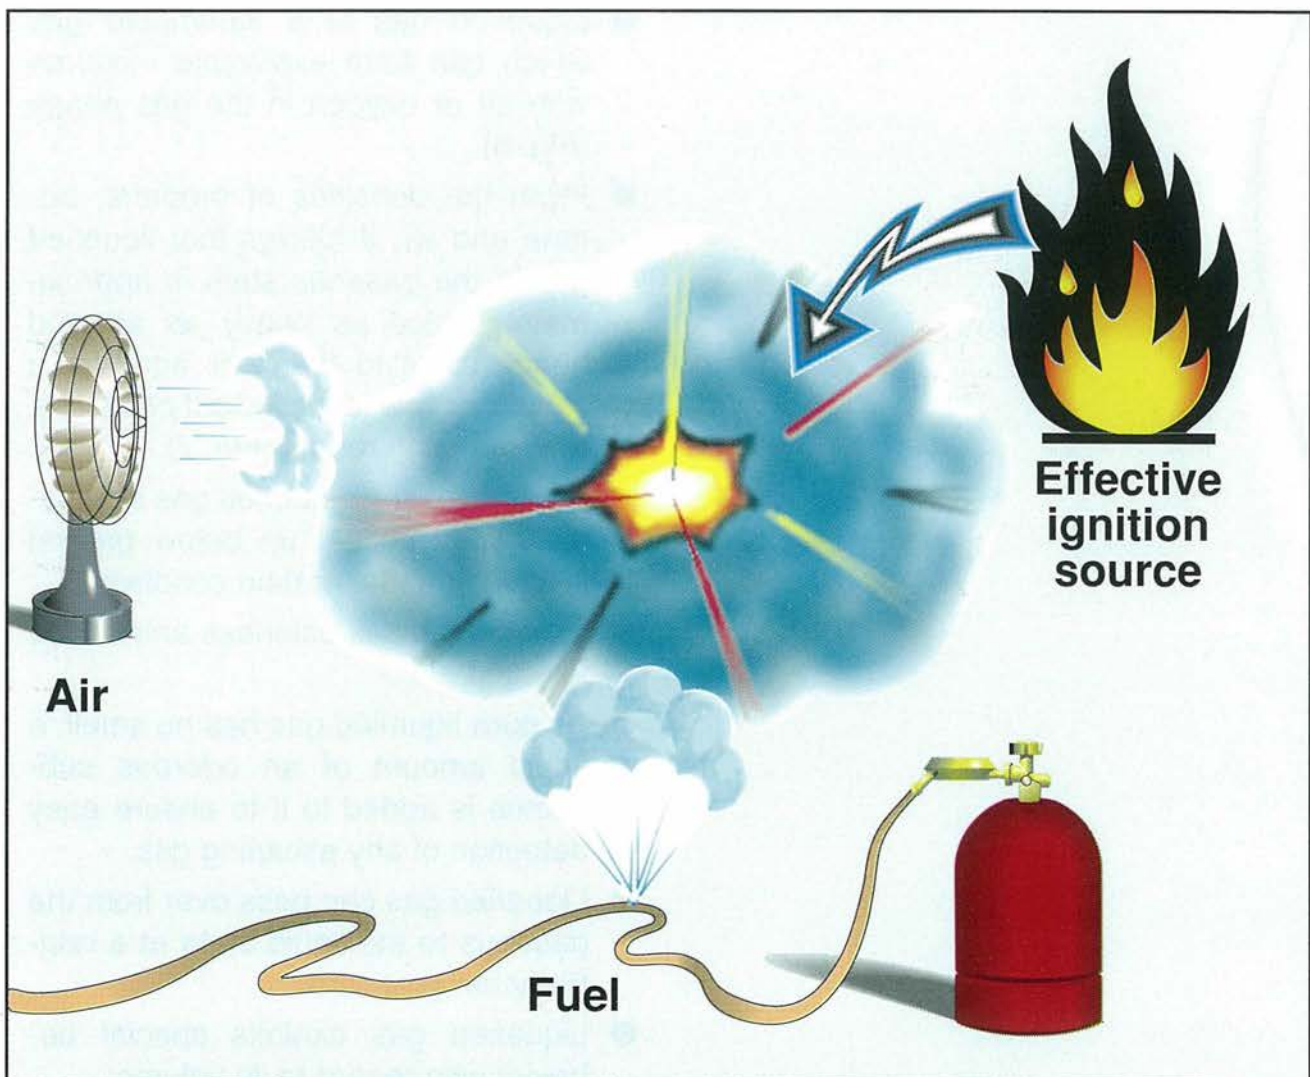

Fig. 6: Prerequisites for the occurrence of liquefied gas explosions
- Liquefied gas is a flammable gas which can form explosible mixtures with air or oxygen in the gas phase (Fig. 6).